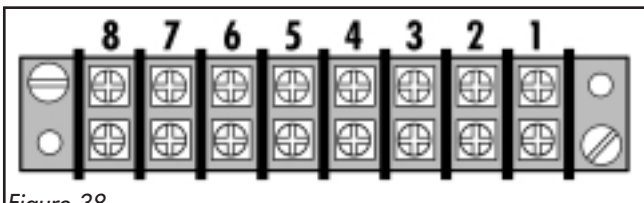

Figure 38
- 4e ...terminal #4 on the terminal strip (Figure 38). If yes, proceed to 4f. If no, disconnected or broken wire from the right solenoid post to terminal #4.